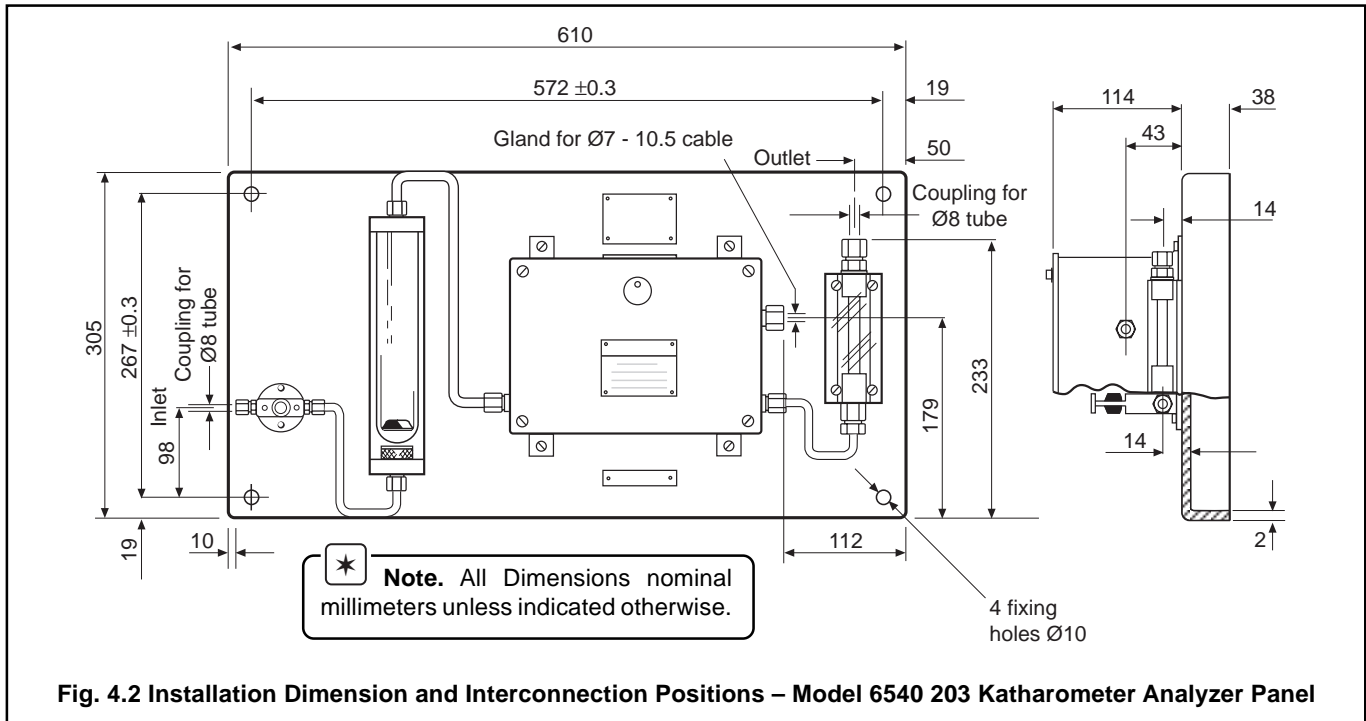

Fig. 4.2 Installation Dimension and Interconnection Positions – Model 6540 203 Katharometer Analyzer Panel
4.1.2 Katharometer Analyzer Panels Fig. 4.2
The katharometer unit is fixed to the panel, which has fixing holes at each corner, and should be mounted on a suitable vertical surface close to the sample tapping point. The installation dimensions for the panels are shown in Fig. 4.2 and 4.3.